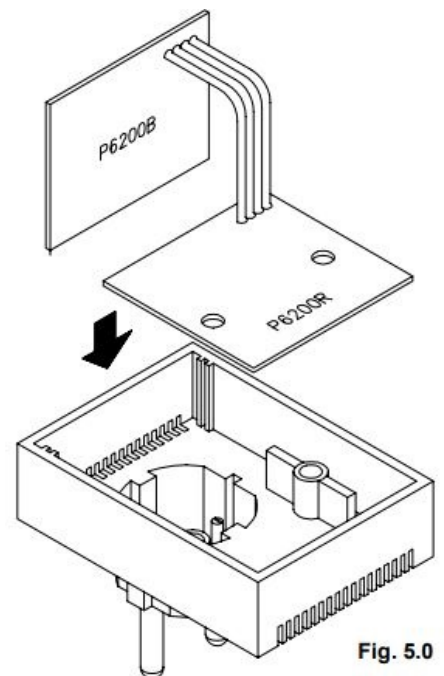

Fig. 5.0
- Mount the modules into the housing as shown in figure 5.0